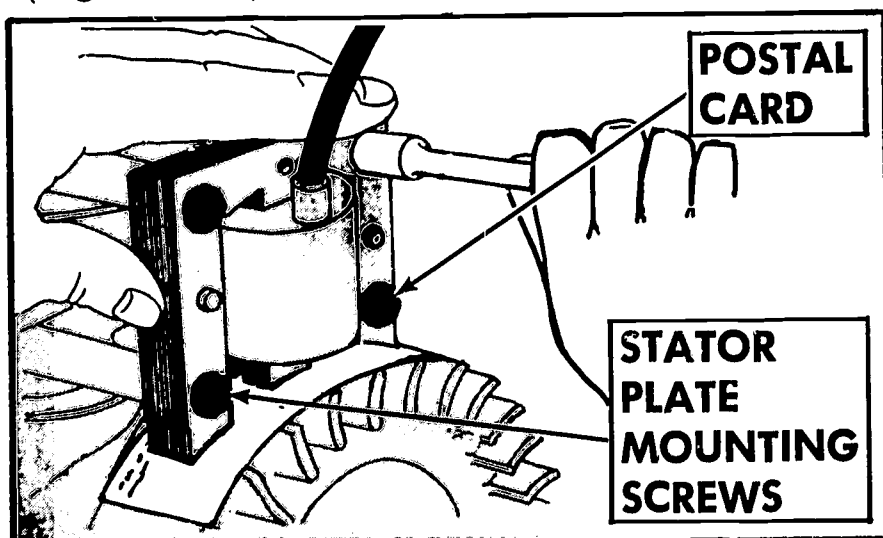

FIGURE 113. Adjusting the stator-plate air gap.
(4) *Tighten the stator plate (Figure 113).*